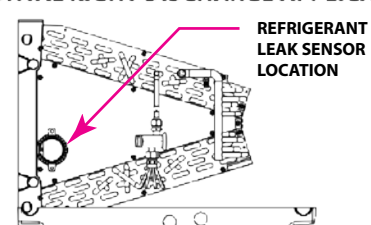

Figure 14: Refrigerant Leak Detection Sensor Location
The refrigerant sensor is factory installed in the correct location for upflow, downflow, and horizontal left discharge applications only. For horizontal right applications, the sensor must be moved to the opposite side of the coil as shown in Figure 14. Mounting holes are provided on the opposite side of the front coil delta plate for mounting the sensor bracket for horizontal right discharge applications as shown in Figure 14. Remove the 2 screws securing the sensor to the delta plate. Attach the sensor with the same two screws to the holes in the opposite side of the front coil delta plate.
2. Locate the black refrigerant sensor located near the bottom front of the coil assembly (See Figure 14).